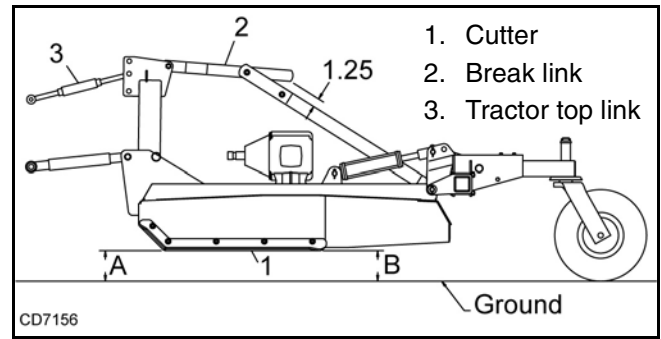

Figure 8. Cutting Height Adjustment
Adjust the tractor 3-point hitch to a distance of 2-1/4" at position A to obtain a 4" cutting height. See Figure 8.
Adjust top link to provide 1-1/4 inches of clearance between the break link (2) and the rear of the lift links. See Figure 8. This clearance will allow the cutter to float over uneven terrain.
Loosen the jam nut on the attitude rod that runs from the tongue to the tailwheel. Adjust rod in or out until dimension B is approximately 1/2 inch more than dimension A. Refer to Figure 8.